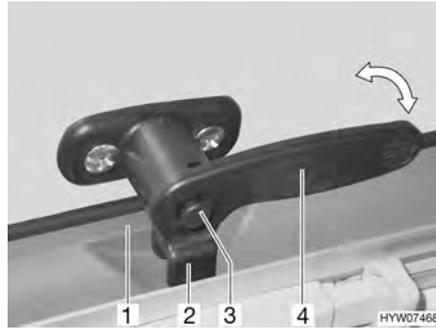

Fig. 57 Catch lever with safety knob in "closed" position
- If necessary, press the safety knob (Fig. 57,3) down and hold it.
- Turn the catch lever (Fig. 57,4) a quarter turn towards the centre of the window.